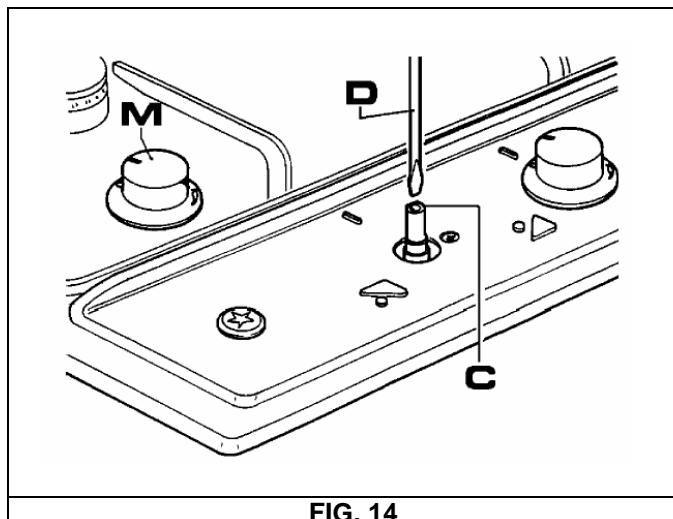

FIG. 14
- Remove knob "M" (fig. 14) of the tap, which is simply pressed on to its rod.
- Insert a small screwdriver "D" into hole "C" (fig. 14) and turn the throttle screw to the right or left until the burner flame has been adequately regulated to the "Reduced rate" position.